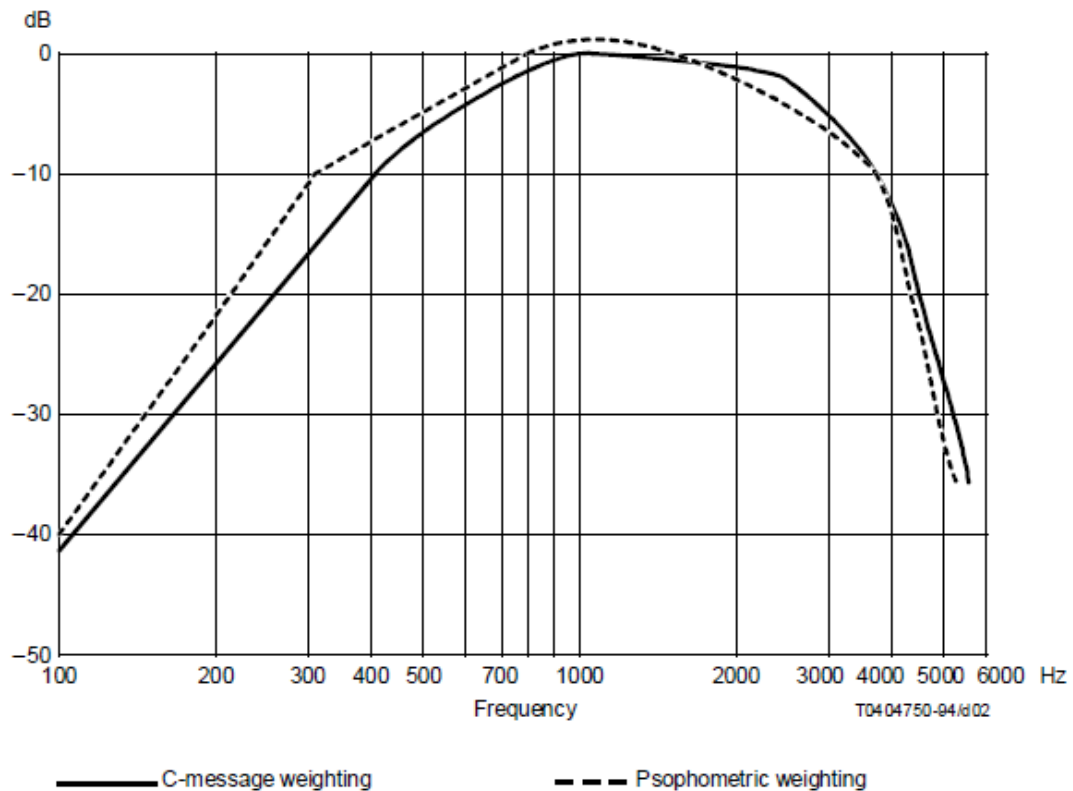

Fig. 7.106: Adding Auto and Cross-correlation
Clicking on “+” in the channel list opens the window for selecting the different math functions. Under the basic math functions there is the option to add a correlation (see Fig. 7.106). It is possible to choose between an Auto or a Cross-correlation. Then press the “Add” button in the bottom right corner of the window and a new correlation channel will automatically be added to the channel list under the specified group name (see ③ in Fig. 7.106).
The Auto-correlation (see ① in Fig. 7.106) mathematically describes the convolution of a signal with itself and is used to detect periodicity in signals, e.g. in modulated and noisy signals.
The Cross-correlation (see ② in Fig. 7.106) mathematically describes the convolution of a signal x with another signal y . The Cross-correlation is used e.g. to detect identical components in 2 different signals or to analyze the delay time between 2 signals.